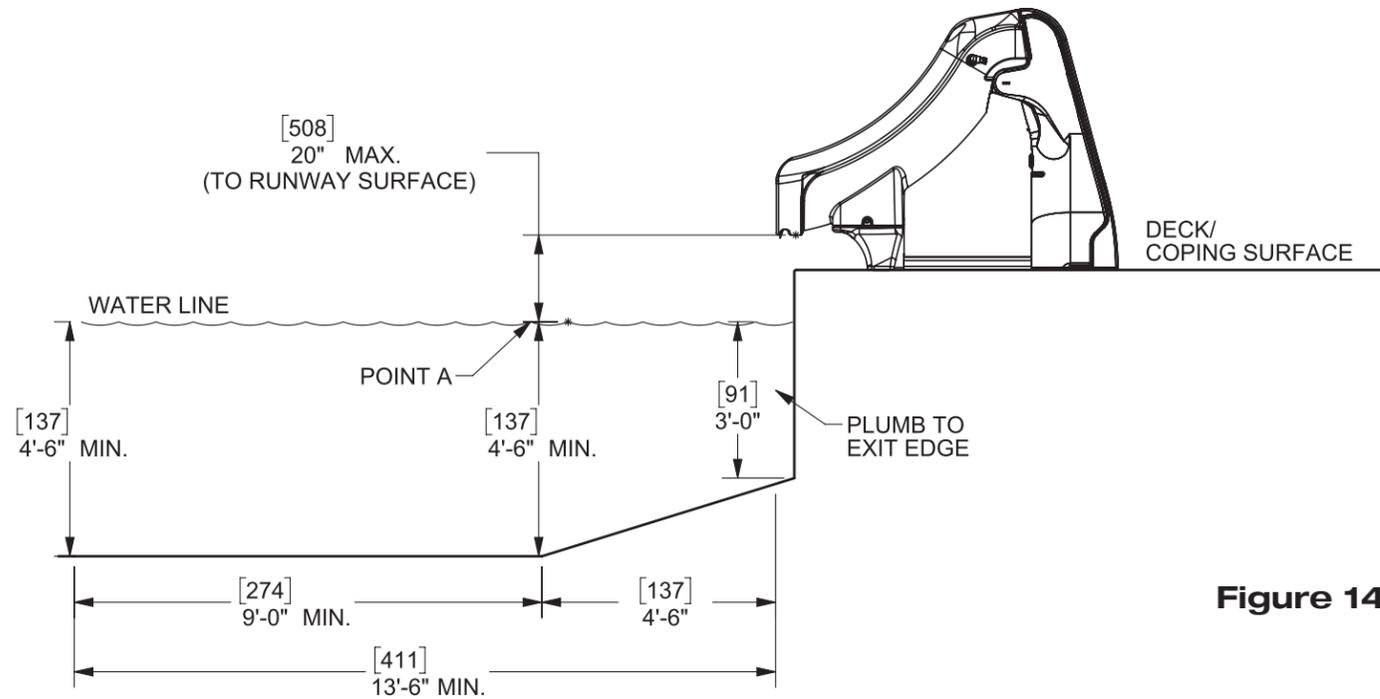

Figure 14
B. The slide exit runway surface shall not exceed 20" (51 cm) above the water surface as shown in Figure 14.
D. The minimum depth of water below the exit lip of the slide shall be 3' (91 cm) and increase to 4'6" (137 cm) at Pt. A, which is a distance of 4'6" (137 cm) from the exit lip of the slide as shown in Figure 14.
E. A minimum depth of 4'6" (137 cm) shall be maintained at a distance of 9' (274 cm) along the extended centerline of the slide from Pt. A. as shown in Figure 14.